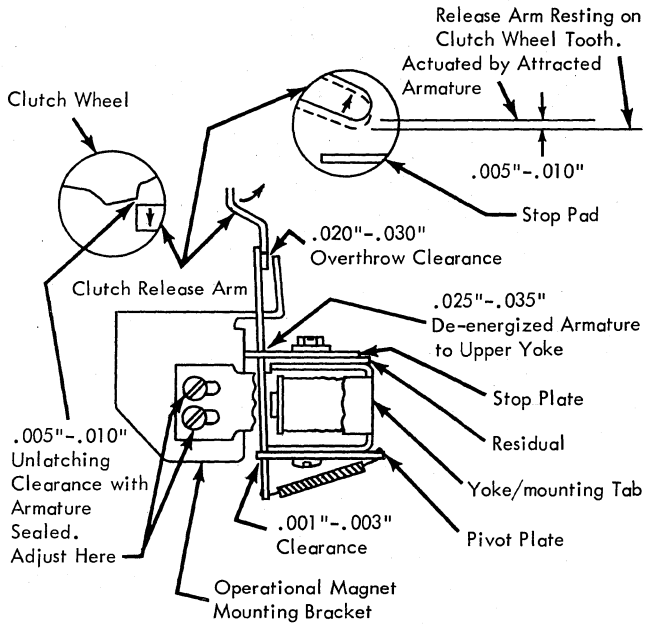

FIGURE 5-2. Operational Magnet Assembly
There are four adjustments for each of the two operational magnet assemblies (Figure 5-2). The adjustments are identical for both magnets and are as follows:
3. With the armature held sealed, slide the magnet assembly front or rear on the operational magnet mounting bracket to provide $.005'' - .010''$ unlatching clearance between the cam clutch release arm and the clutch wheel tooth. This clearance can be measured as release arm movement at the stop pad (Figure 5-2).